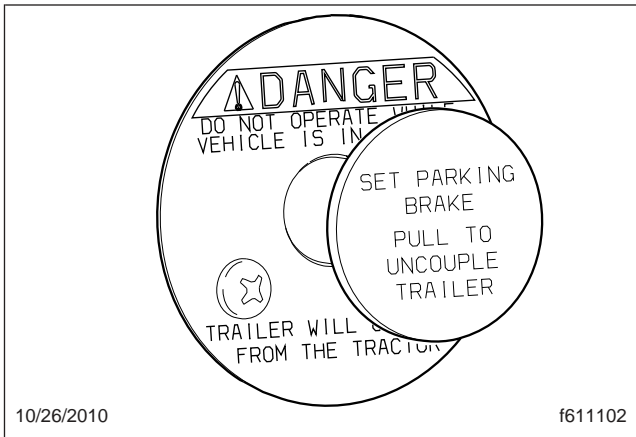

Fig. 18.10, Air-Actuated Kingpin Release Valve
An air-actuated kingpin release valve is optional with all fifth wheels. See Fig. 18.10.
2. Pull and hold the kingpin release valve (**Fig. 18.10**) until the kingpin lock mechanism opens and locks in place.